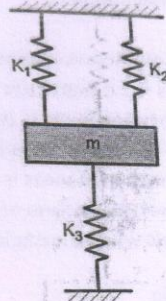

Figure. 1
- Find the natural frequency of vibration of the system shown in figure 1. 3 3